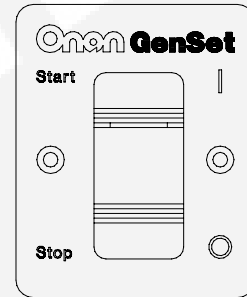

FIGURE 11. REMOTE SWITCH
- Remote switch / status lamp (Figure 11).